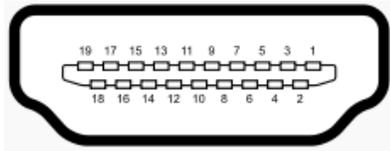

Figure 3-29: HDMI Connector
- CN Pinouts:** See **Table 3-29** and **Figure 3-29**